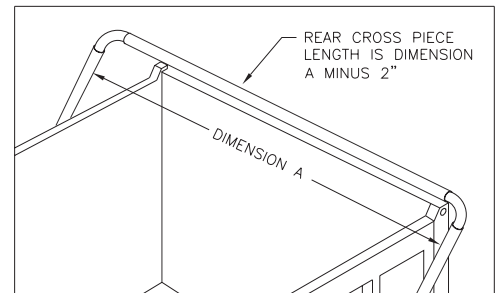

FIGURE 3
- 5) Measure the distance between the upper arms as in Figure 3. Cut the end of the rear cross piece that **does not** already have the holes 2" shorter than the distance measured. Using the pre-drilled bolt holes in the 90° bend castings as a template, mark the rear cross piece for drilling. Drill two 3/8" holes in the rear cross piece at these markings such that when the casting is inserted into the rear cross piece the holes will align to allow bolting.